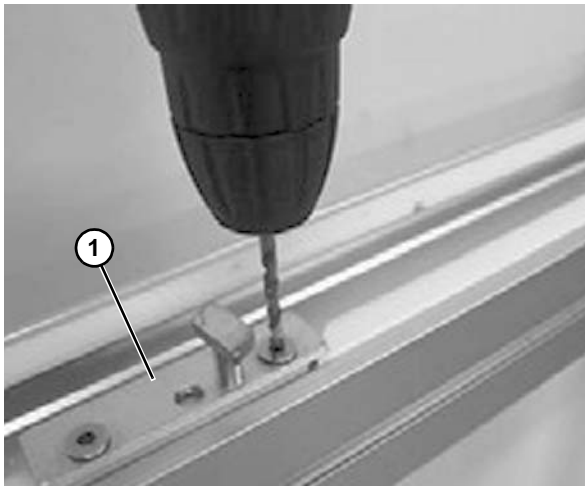

Figure 37
1. Drill two holes near the beginning of each slide rail section. Use the drill fixture (**Figure 37, item 1**) to ensure clean-cut holes and the correct location of the holes. The holes must be at the leading edge of the joint piece, in the direction of travel, to hold the slide rail in place when the conveyor is in use. Use a well sharpened 4.3mm, #18, or 11/64" drill bit.